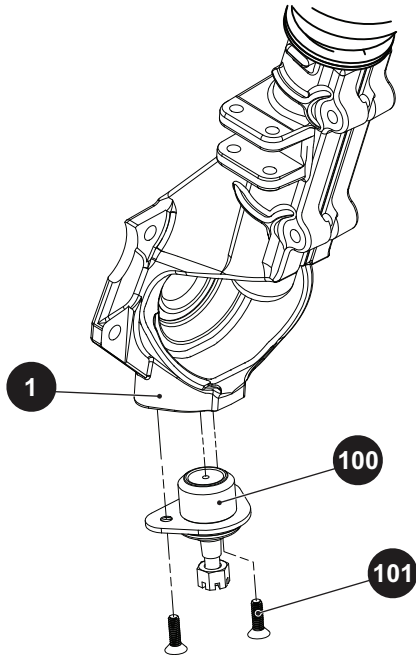

Fig. 3 Lower Ball Joint
5. Remove the two screws (101) securing the lower ball joint (100) to the strut assembly (1) (Ref. Fig. 3).